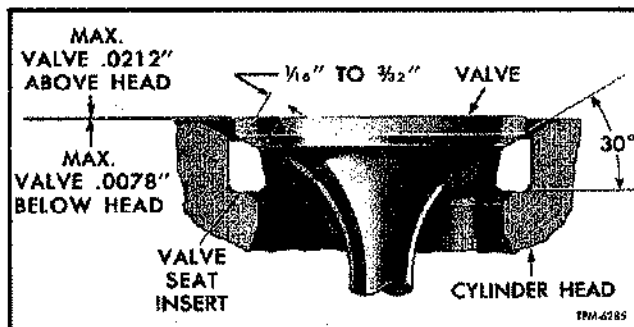

Figure 98—Installation of Valve and Valve Seat Insert—(Two Valve Head)
3. Grind top surface with 15° wheel to narrow width of seat to $\frac{1}{16}$ " to $\frac{3}{32}$ ", see figures 98 and 99. The 30° face of the insert may be adjusted relative to the center of valve face with the 15° and 60° grinding wheels.
As shown in figures 98 and 99, a new valve must not protrude more than .0212" beyond the surface of the two-valve cylinder head or .006" beyond the surface of the four-valve head. After several re-conditions, the valve seat insert diameter will be increased so that the valve will recede into the head.